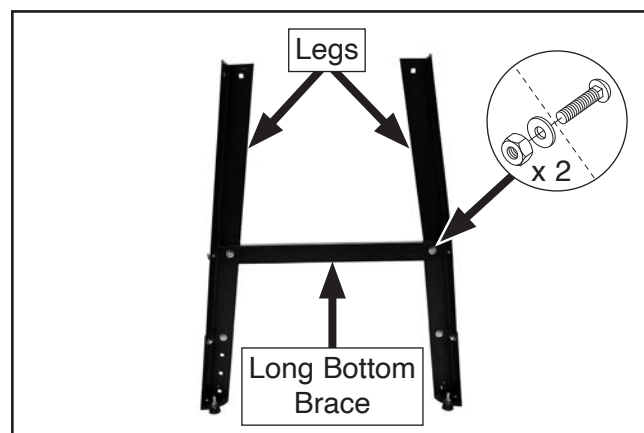

Figure 4. Long bottom brace attached to legs.
3. Attach (1) long bottom brace to (2) legs with (2) $\frac{5}{16}$ "-18 x $\frac{1}{2}$ " carriage bolts, $\frac{5}{16}$ " flat washers, and $\frac{5}{16}$ "-18 hex nuts, as shown in **Figure 4**.